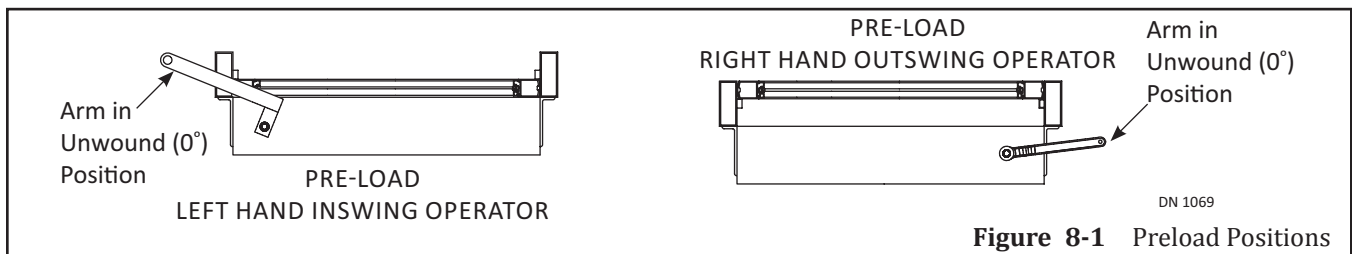

Figure 8-1 Preload Positions
1. Ensure the Spring on the Operator is in the Unwound (0°) position. Please see Figure 8-1.